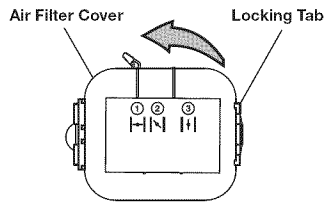

Fig. 18
- To open the air filter cover, push the locking tab on the right side of the cover inward and pull the air filter cover slightly out and to the left (Fig. 18).